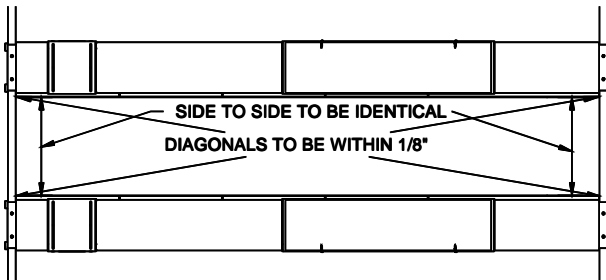

Fig 7 – Final Runway Positioning
- 12) Check the layout of the lift in the bay. **(This is the last opportunity to reposition the lift.)** Adjust the position of the runways so the distance from power side jack rail to idler side jack rail is the same at the front and the rear and the diagonal measurements from the front tip of one rail to rear tip of the opposite rail are within 1/4", **Fig 7.**